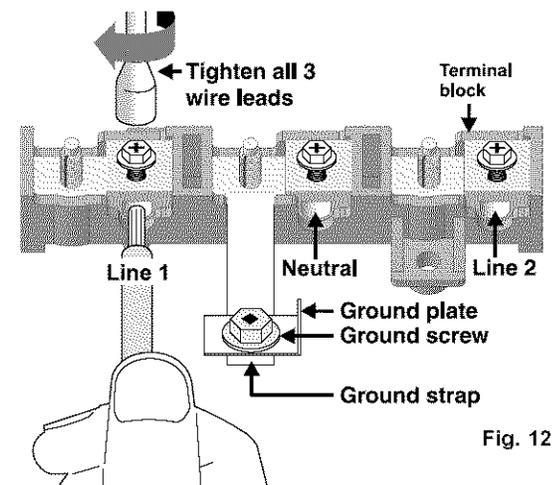

Fig. 12
2. Strip insulation away from the ends of the permanent wiring for Line 1, Line 2 & Neutral. Tighten all 3 wire leads to the terminal block (Follow wire locations shown in Fig. 12).